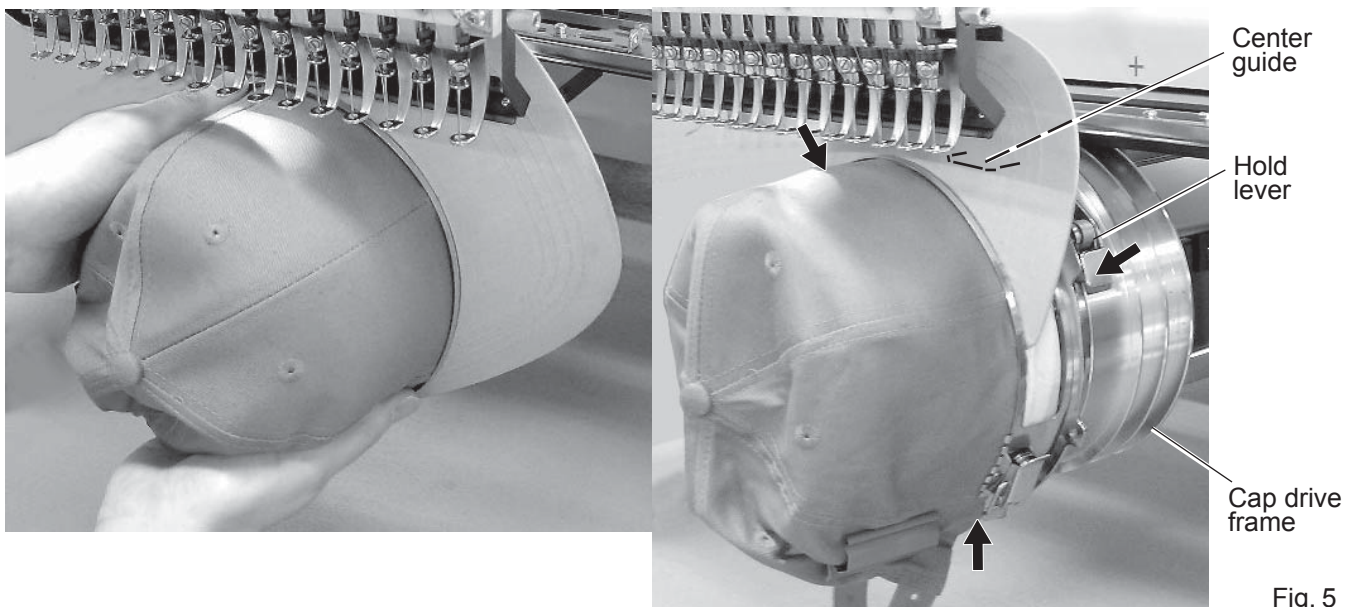

Fig. 5
8. As shown in Fig. 5, install the cap frame on cap in the drive frame. Rotate the cap frame as show in the Fig 5 so that the brim of the cap cannot hit the machine. Then, push the holder lever in the 3 places shown in the arrow in Fig. 5, and install the cap frame in the cap drive frame so that so that the center guide of the drive frame fits the concave area of the cap frame.